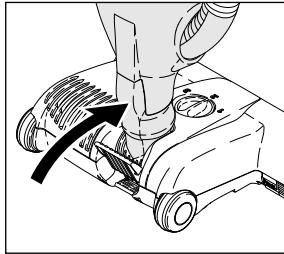
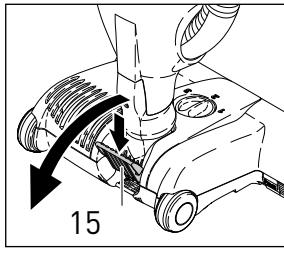

Figure 6
Figure 7
Before turning on your vacuum cleaner, make sure that the vacuum is in its upright locked position (figure 6).
Operating with the Power Head - Figures 6, 7, & 11
A. When the power head is switched on with the power head neck (figure 6) in the upright locked position, the brush roller will not spin and the on/off light will illuminate in yellow. To release the power head from the upright locked position, press down on the foot pedal (15, figure 7) and lower the power head neck into the normal operating position. The brush roller will then start spinning and the on/off light on the power head will illuminate in green. The handle can be lowered to a horizontal position useful for vacuuming under beds.
By pushing the foot pedal (figure 7) and lowering the handle, you activate the power head and the brush begins spinning. Failure to use the foot pedal will cause lasting damage to the machine. The electronic brush control constantly monitors the status of the brush, communicating the status through the lights on top.